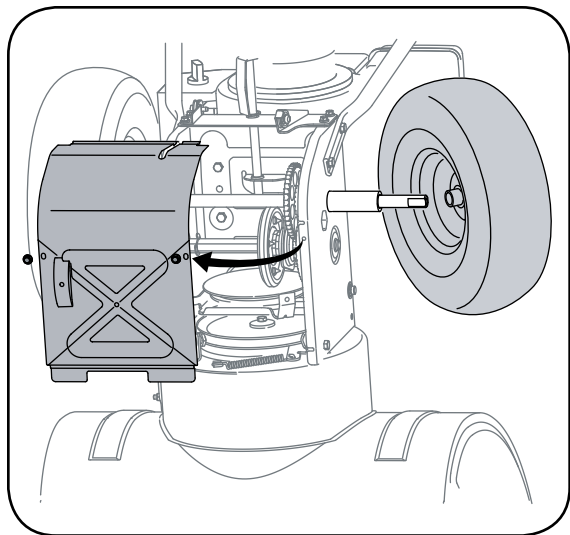

Figure 6-13
1. a. Remove the frame cover from the underside of the snow thrower by removing four self-tapping screws which secure it, Figure 6-13.